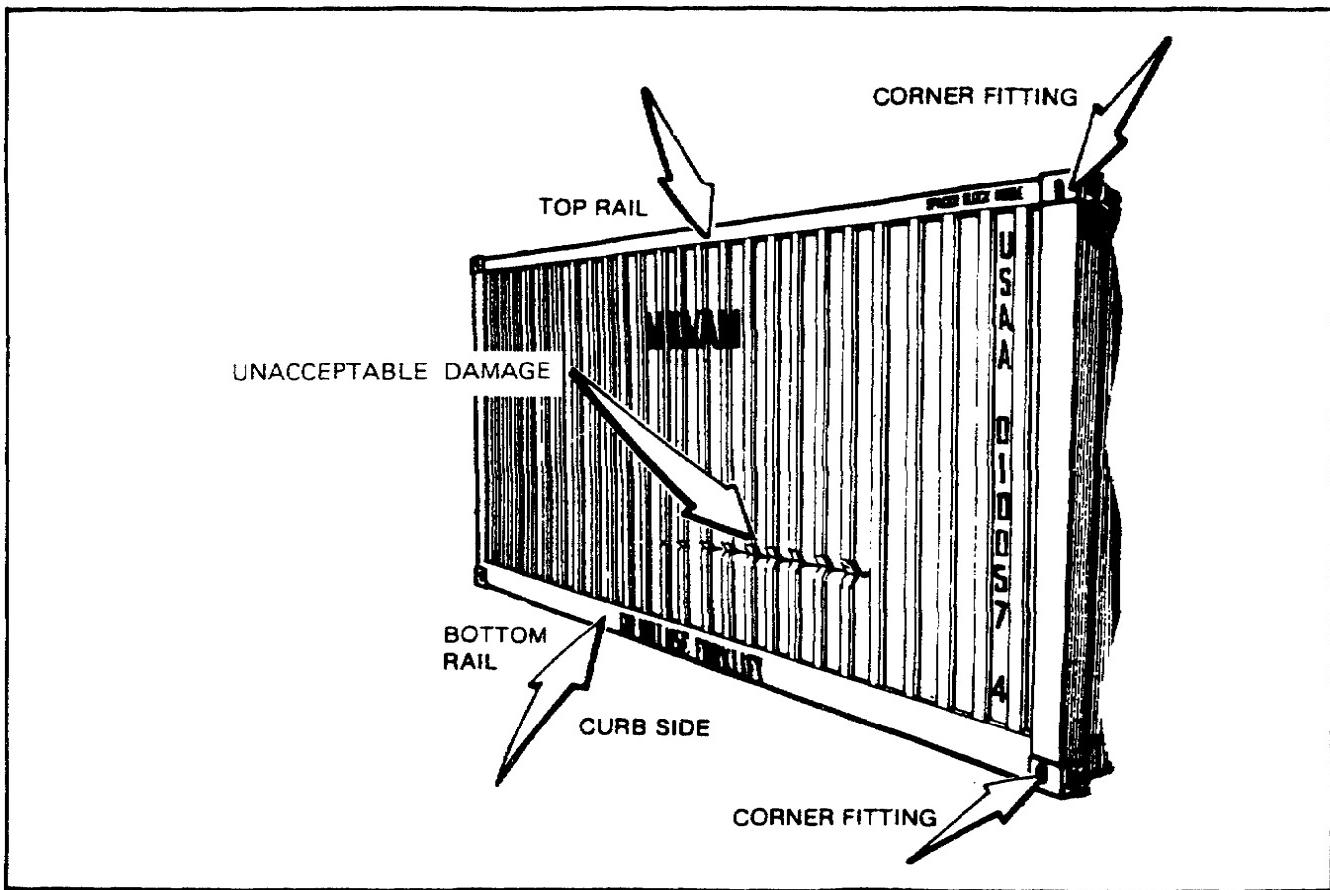

Figure 2-17. Curb Side (Exterior) Showing Inspection Points and Showing Unacceptable Damage to the Side.
*Item 3-Curb Side (Exterior).* Inspect the curb side of the MILVAN for damage or distortion that would weaken the container or threaten its cargo (figure 2-17). Pay particular attention to both the bottom and top rails and the corner fittings as you proceed. Remember that the corner fittings provide the means of handling, stacking, and securing the MILVAN.